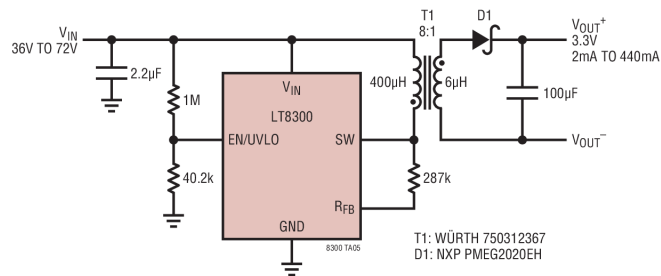

Figure 7. The LT8300 Typically Does Not Require a Snubber Circuit
It is common to see either the Zener diode clamp or the RC snubber used in a flyback circuit; and it also is common to see both, as shown in figure 1 above. A snubber circuit is generally recommended when using the high voltage LT8304 to protect the switch node; however, there are special cases when a snubber circuit is not needed, resulting in an even more simplified schematic and a smaller solution footprint. The LT8300 features a 150V/260mA internal power switch and is recommended when small size and fewest external components are key design parameters. It has robust switch protection and includes many circuits in the datasheet that do not include a snubber circuit as shown below in figure 8. . , thus providing the smallest, simplest, lowest power solution for your isolated needs (Figure 7). Here, the switch pin (SW) will see a maximum voltage of V_{OUT} times the turns ratio (8:1) plus V_{IN} , or $3.3V * 8 + 72V$, or 96V. This is well below the switch's 150V absolute maximum rating.